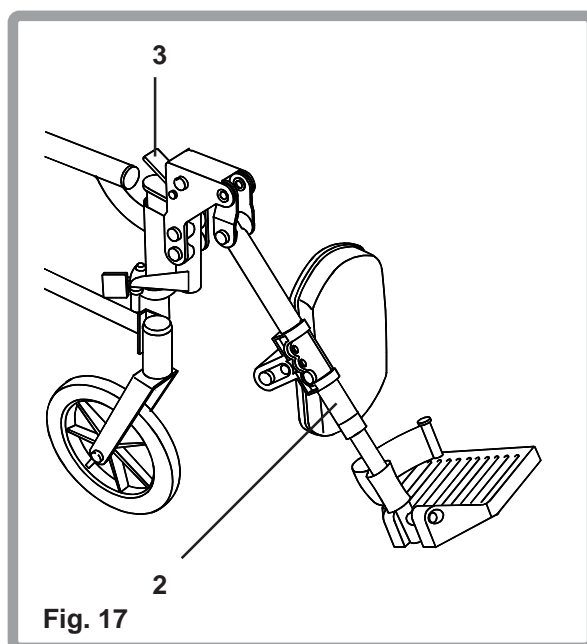

Fig. 17
To raise the legrest (2) lift to the desired position, where it will automatically lock into place. To lower the legrest whilst seated in the chair push the release lever (3) forwards and lower the legrest to the desired position. Release the lever, the legrest will lock into position (Fig. 17).